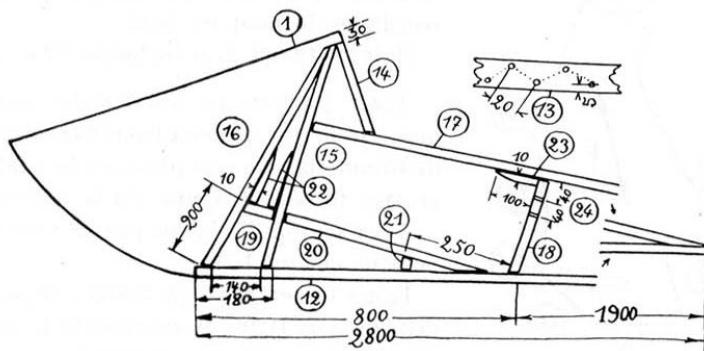

Figure 3.3: Layout of longerons and members, fuselage side
A longeron 20×20 , 2700¹ mm (2m 70cm) is glued and nailed as at ⑫, fig. 3.3. It extends beyond the end of the side by 1900 mm.
¹Both here and in the figure M. Mignet mistakes himself and writes 2800; the measurement in fig. 3.3 is incorrect.
To glue, spread the glue on the first 800mm of the longeron, so there are no bare spots. A nail at each end will steady it while you nail in a zigzag pattern every 20mm or so, as seen at ⑬ in fig. 3.3. After nailing, the glue will be squeezed out along the entire joint. Plane it away when dry.